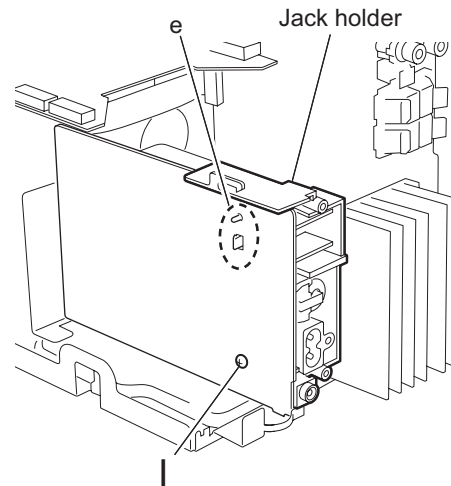

Fig.14
3.1.7 Remove the power transformer and power supply board (See Fig.14,15)